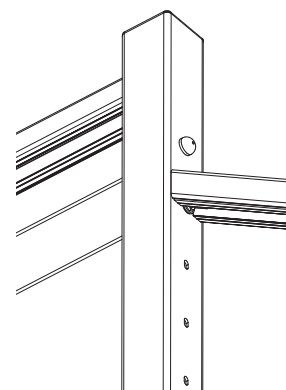

Figure 5.3
*Note: Do not use an end cap on the Quick-Connect® fitting of the second cable from the top. The Sub-Rail and Top Rail will cover the fitting, once installed. (See Figure 5.3)*